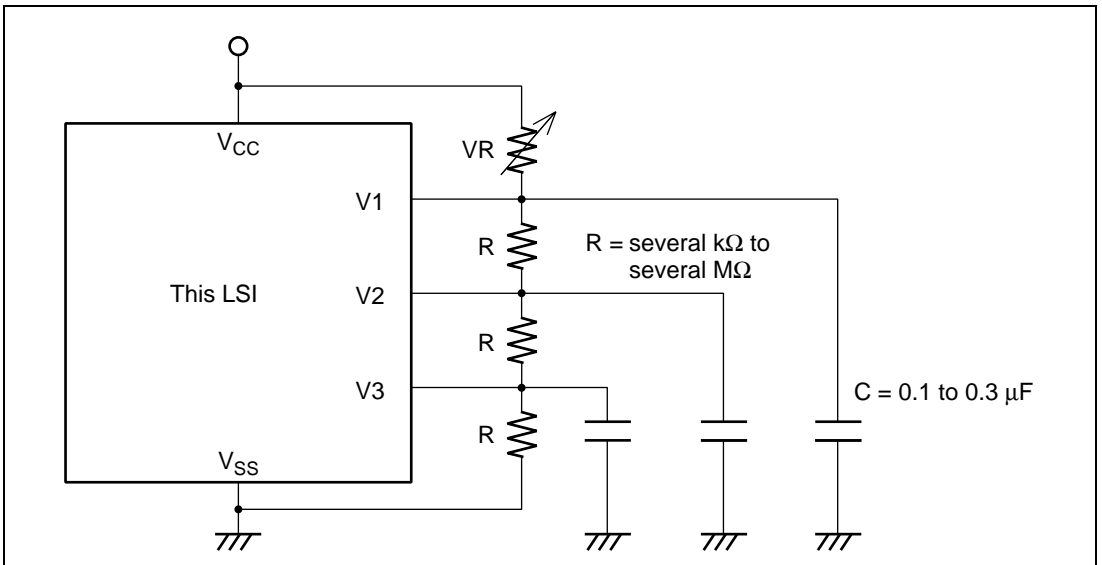

Figure 19.10 Connection of External Split Resistor
When a large panel is driven, the on-chip power supply capacity may be insufficient. In this case, the power supply impedance must be reduced. This can be done by connecting bypass capacitors of around 0.1 to 0.3 μF to pins V1 to V3, as shown in figure 19.10, or by adding a split resistor externally. The voltage on the V1 pin can further be adjusted by connecting a variable resistor (VR) between the V_{CC} and V1 pins.